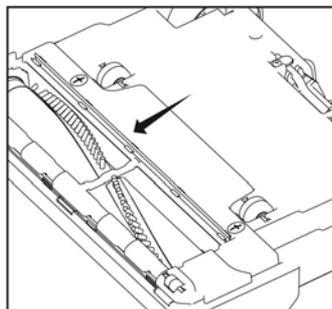

Fig. 4
Your vacuum is equipped with a squeegee on the bottom of the vacuum to improve its effectiveness in cleaning bare floors (Fig. 4). When cleaning tile, hardwood, vinyl, etc., use the “On” setting (I) for best results.